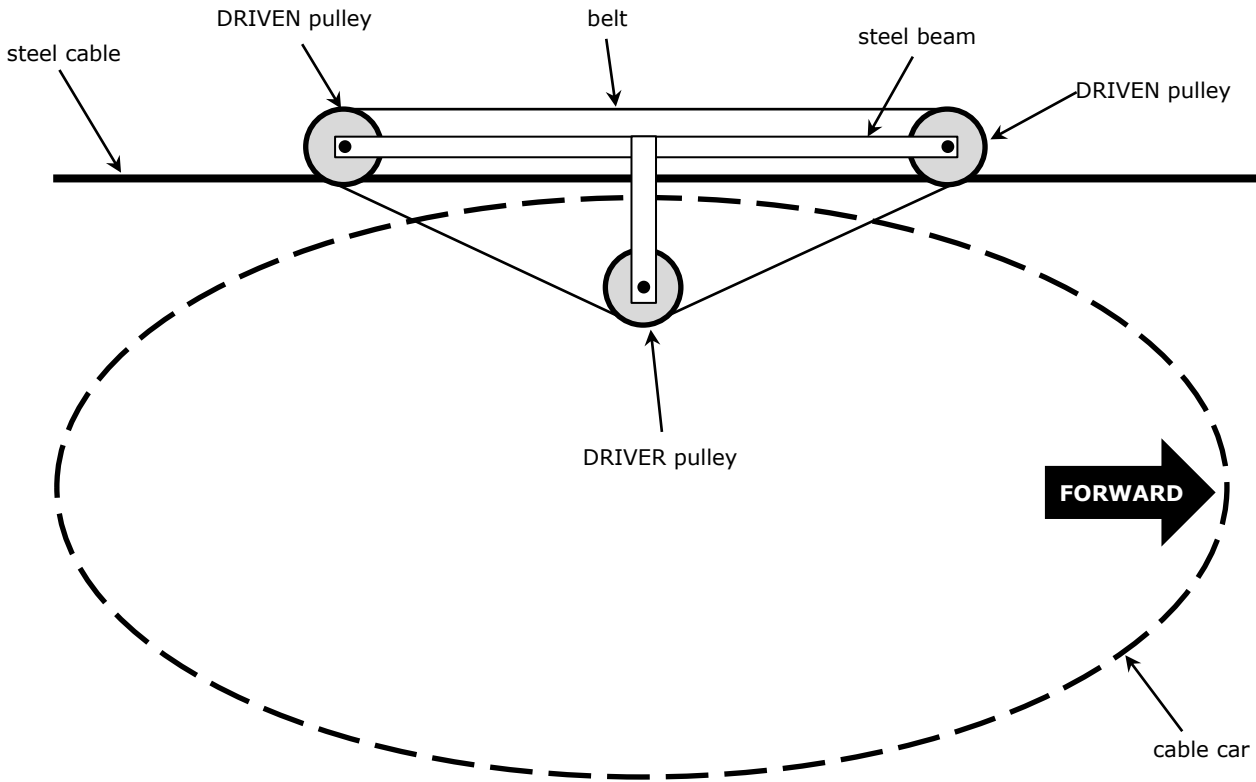

Figure 2: Cable car pulley mechanism
Figure 2 shows parts of a possible pulley mechanism which can drive a cable car backward and forward to its destination. The DRIVER pulley is attached to a motor which provides rotational force and speed to make the system work.
a. On Figure 2, draw an arrow on each pulley to show their direction of rotation when the cable car needs to move forward. (1)
c. In the mechanism shown in Figure 2, all pulleys have the same diameter. Explain what are the effects on the DRIVEN pulleys if:
- e. The current system has a great risk of failure since the cable car is hanging from only one point. In the space provided below, redesign the pulley mechanism shown in Figure 2, so that the cable car is safer.